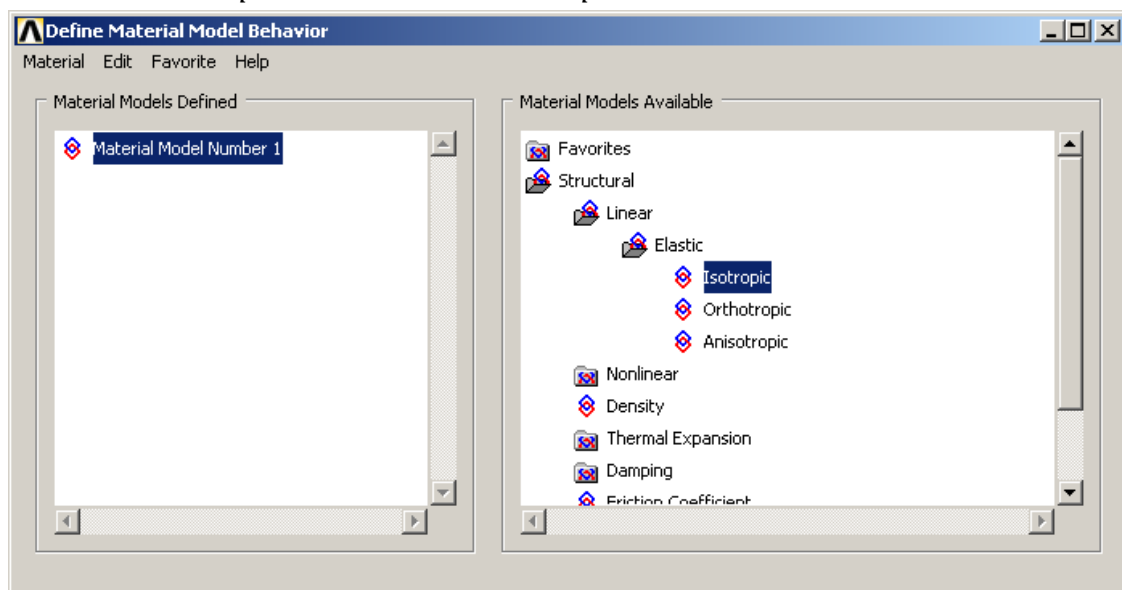

Fig. 6: Define the material properties.
Enter the material properties Young's modulus (EX) and Poisson's ratio (PRXY). Confirm with **[OK]** and close the "Material Models" window (Fig. 6).